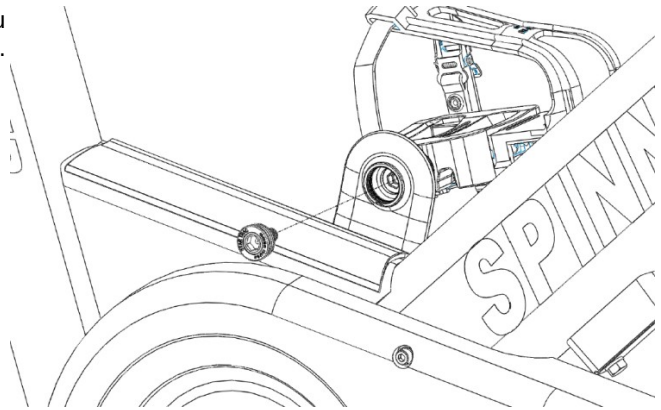

Fig. 25
25. Install the pedal securing bolts (Fig. 25) into each pedal thru the back of each crank arm using an 8mm hex key.